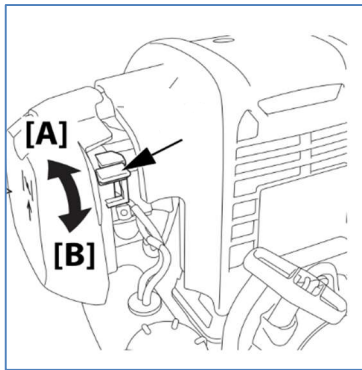

Figure 9: Choke ON (UP) / OFF (DOWN) position.
2. Before starting the driver, press the fuel priming pump several times until it is filled with fuel. Then, slide the choke to the ON [A] position as shown in Figure 9.
3. With one hand on the driver's upper handle, pull the starter grip, repeating until the engine starts. After the engine has idled for 30-60 seconds, slide the choke to the OFF [B] position as shown in Figure 9 above.